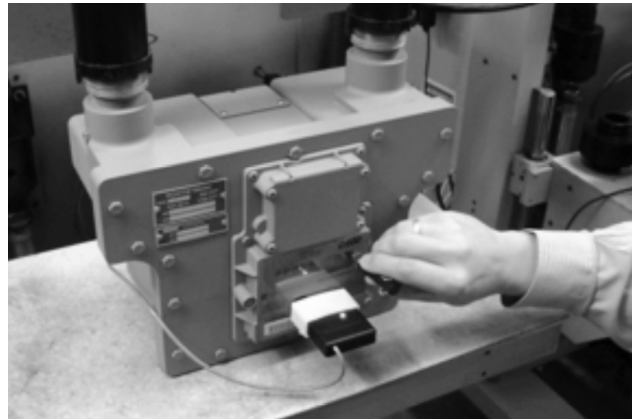

Figure 10.14 Example - Light on IrDA cable indicates connection is established
2. Place the meter into the Non-Compensated Prove mode. (Refer to Section 10.3 for information assistance.) Once the meter goes into prove mode the red light will switch from a flashing red light to a solid red light as shown in Figure 10.14 Example. Now the meter test will start.